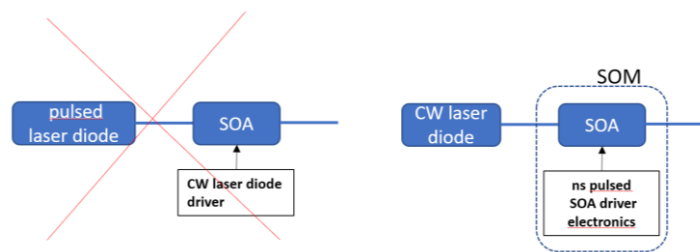

Figure 8 : SOA, when driven with a specific electronics, behaves like a fiber modulator with no insertion loss (SOM)
**Semiconductor optical amplifiers (SOA)** are a well-established alternative to CW EDFA's (Erbium Doped Fiber Amplifiers) and are used to amplify a pulsed signal. A Semiconductor Optical Modulator (SOM) utilizes SOA technology in a different way than traditional SOA amplifiers have been used (*Figure 8*). Semiconductor optical modulation utilizes a SOA as a **light modulator** with potentially negative insertion loss (ie Gain). In this case, a CW laser diode signal is applied to the SOA and **it is the level of current driving the SOA which is switched ON/OFF at GHz speed**. This modulated signal can also be customized and shaped to accommodate many emerging applications.